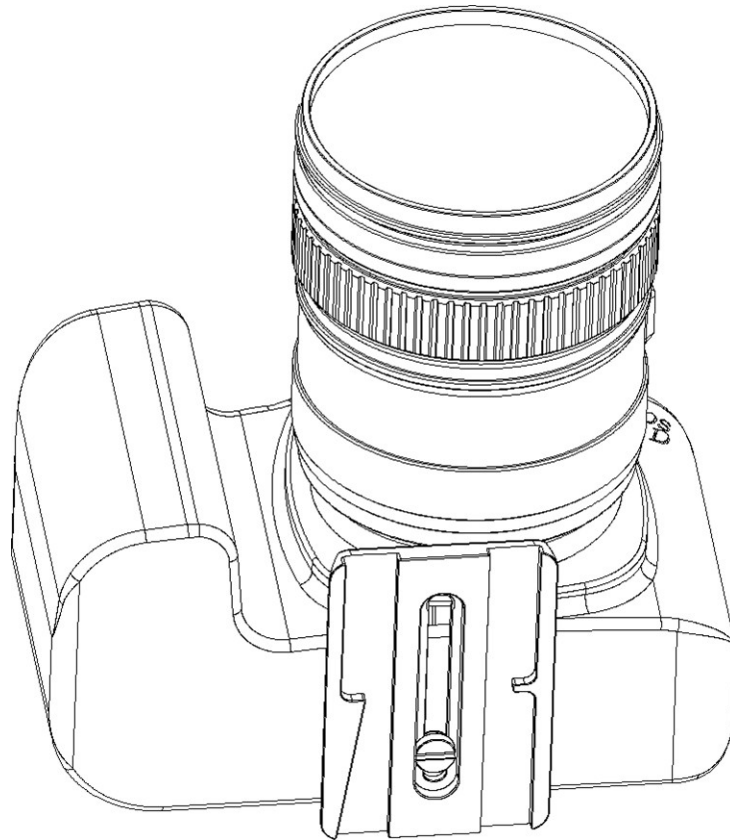

Fig. 4. The camera is attached to the quick release plate
- Attach the quick release plate to the camera (Fig. 4). Be careful not to twist it too tight at this point.